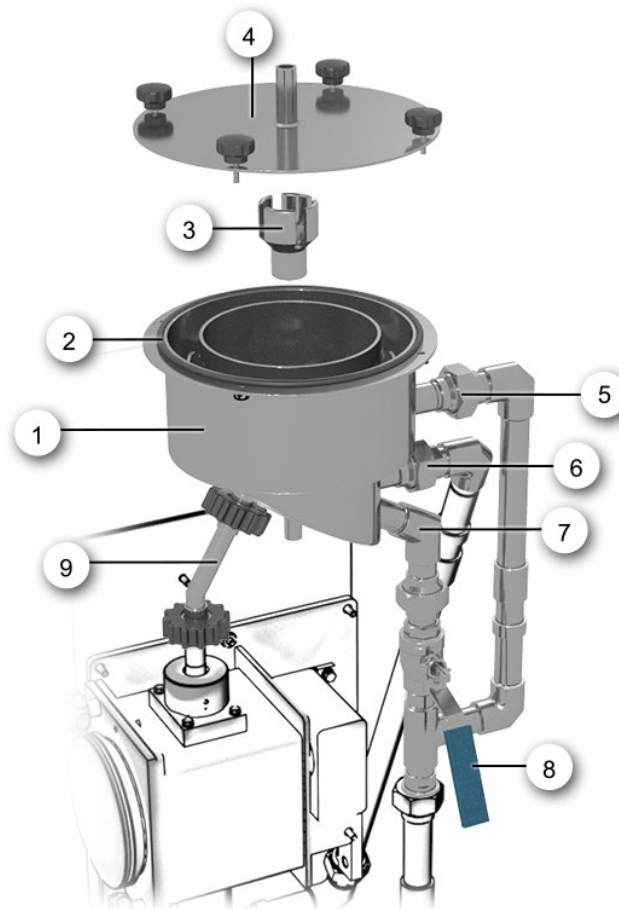

Figure 20: Sample preparation system on OilGuard 2 Ex
4.	Open the drainage valve (Figure 20, pos. 8) slowly and let the sample preparation system run dry.
5.	Loosen the locking screws and remove the cover (Figure 20, pos. 4) on the sample preparation system.
6.	Check the seal (Figure 20, pos. 2) and replace, if necessary.
7.	Remove the skimmer (Figure 20, pos.3) from the vessel (Figure 20, pos.1) and clean it.